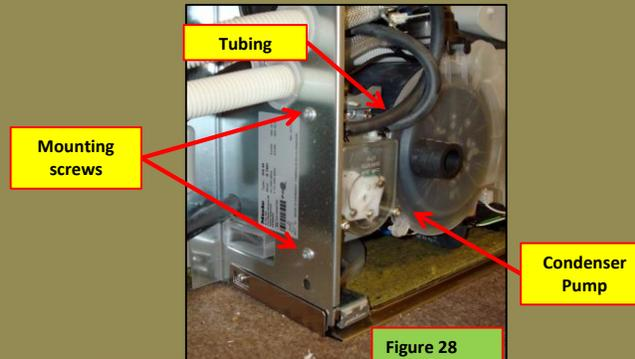

Figure 28
2. Disconnect the tubing to the pump casing; see Figure 28.
3. Remove the 2 screws securing the condenser pump mounting bracket to the rear panel; see Figure 28.